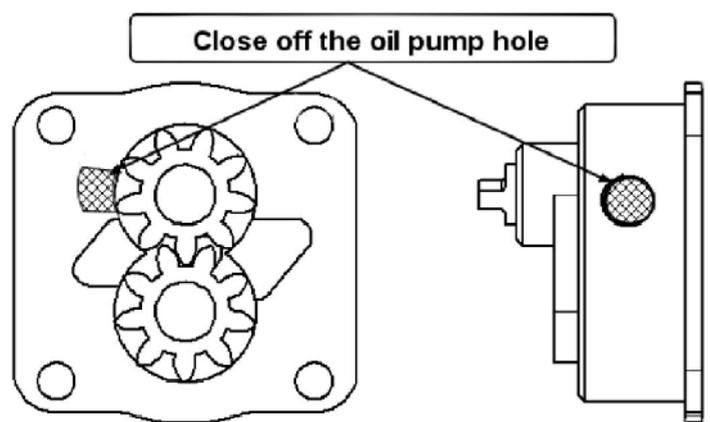

Fig. 2
- Remove the production standard oil pump. Close off the oil pump hole (on the pressure side) as shown in Fig. 2 with an appropriate blanking plug. Then reinstall the oil pump. Replace the production standard oil pump cover with one featuring a control valve and a connection for a hose nipple (Paruzzi # 3992).